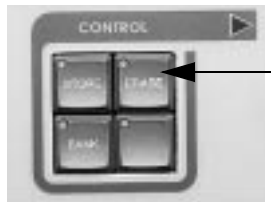
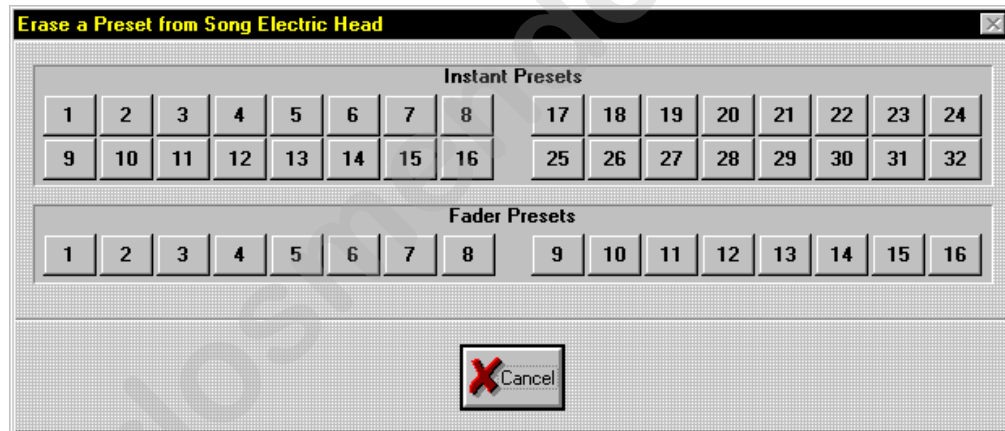

Figure 7.10. CONTROL Group
Figure 7.11. Erase a Preset From Song Dialog Box
2. Press the <ERASE> key in the CONTROL group (Figure 7.10). Alternately, select **Erase Preset** from the **Song** drop-down menu. This will bring up the **Erase a Preset from Song** dialog box. Refer to Figure 7.11.
3. Press the desired Preset key in the SYSTEM KEYS/INSTANT PRESETS group (Figure 7.4) or FADER PRESETS group (Figure 7.5) to erase. Alternately, click the desired Preset in the **Erase a preset from Song** dialogue box (Figure 7.11).